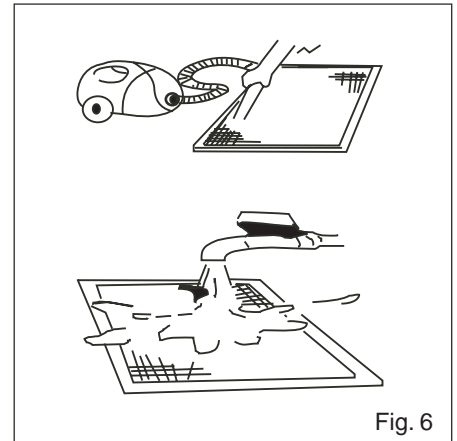

Fig. 6
- 1) Remove the net type filters by detaching the fixing latches, as it is shown in Fig. 6.
- 2) Carry out the cleaning of filters by using first a vacuum cleaner, and then wash the filters in cold or just tepid running water (Fig. 6).